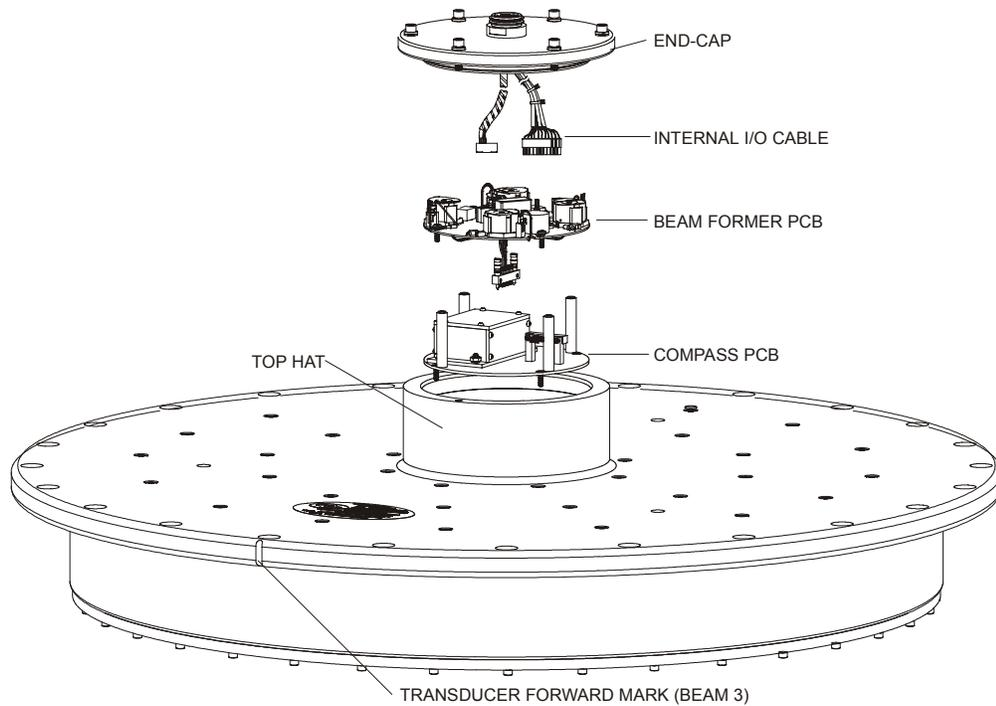
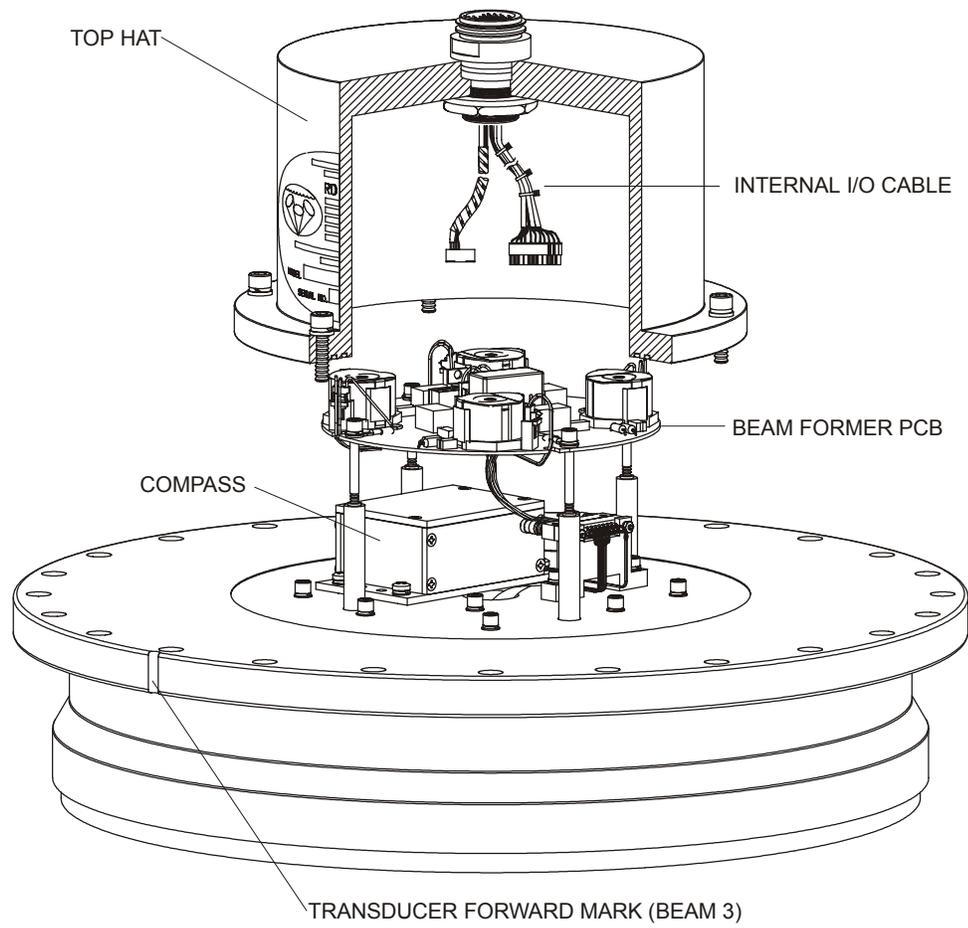

Figure 5. Transducer PCB Layout (38 kHz Round Transducer Shown)
Figure 6. Transducer PCB Layout (75 kHz Transducer Shown)
- b. Remove the end-cap/Top Hat assembly on the transducer. The end cap is attached to the beam former and optional TCM2 compass by a cable (see Figure 5, page 7 and Figure 6, page 8). The end-cap cannot be removed until the cable has been disconnected.
NOTE. The 75 kHz transducer uses a one-piece Top Hat assembly (see Figure 6, page 8)
- a. Remove the End-Cap/Top Hat assembly (see Figure 5, page 7 and Figure 6, page 8).
- d. Install the End-Cap/Top Hat assembly (see Figure 5, page 7 and Figure 6, page 8).